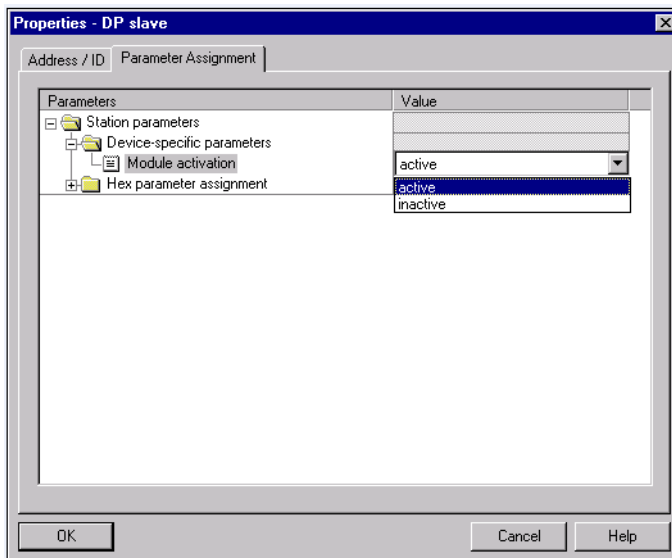

Figure 5-3 Activating/deactivating a device
The "Parameter Assignment" tab can be used to specify whether a device should be active or inactive, see Figure 5-3.
Depending on the device type, substitute values (DO and AO) to be output in the event of an error can also be set at this point, for example. Furthermore, inputs (AI) can be parameterized. This is also carried out via the dialog box shown in Figure 5-3.